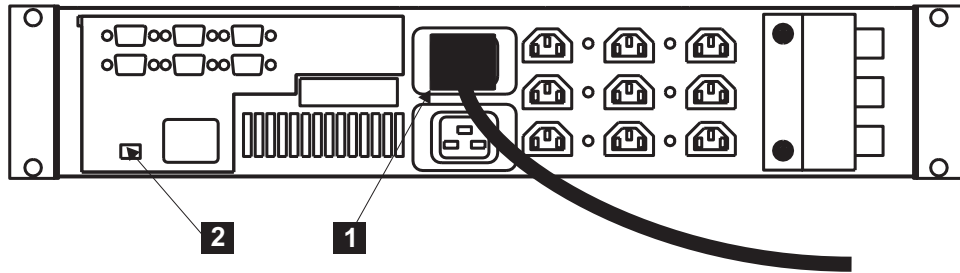

Figure 122. Installing the uninterruptible power supply power cable
9. At the back of the uninterruptible power supply, plug the uninterruptible power supply main power cable into the power socket, **1** in Figure 122 on page 178.